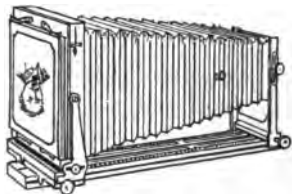

FIG. 426. — A simple camera.
**451. Photographic camera.** The simplest form of camera consists of a light-tight box (Fig. 426) with a **converging lens** at one end, so mounted as to form an image of an outside object upon a **sensitive plate**. This plate consists of a silver compound spread on a glass plate or celluloid sheet (film). The light is allowed to pass through the lens for a time which varies from a thousandth of a second up to several minutes, according to the lens, the brightness of the object to be photographed, and the